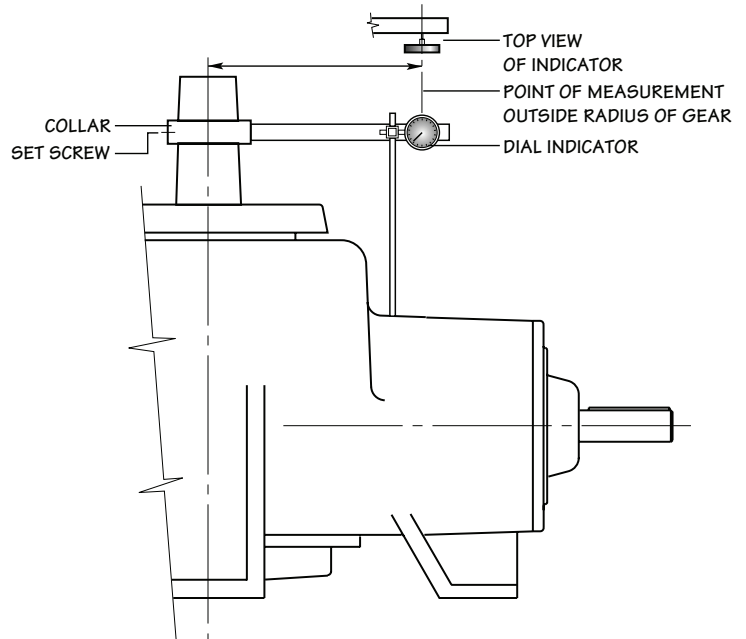

Figure 5 Gear Backlash Measurement
- With the “X” marked tooth on the pinion gear engaged between the two “X” marked teeth on the ring gear, check the backlash with a dial indicator as shown in **Figure 5**. Lock the pinion shaft against rotation. The amount of movement of the fan shaft, measured at a distance equal to the outside radius of the ring gear is the backlash. Obtain backlash setting by adjusting ring gear axially by removing or adding shims (420) at bottom bearing cap.